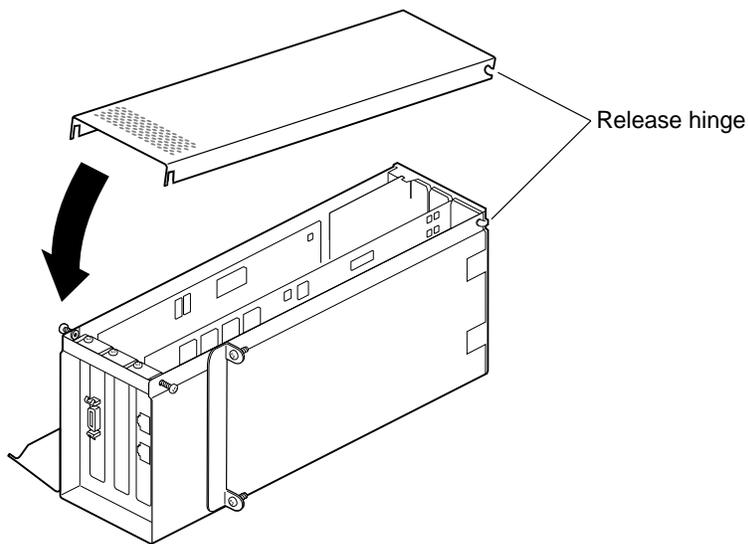

Figure 4-34 Reinstalling the PCI Module Door
7. Reinstall the PCI module door, as shown in Figure 4-34.